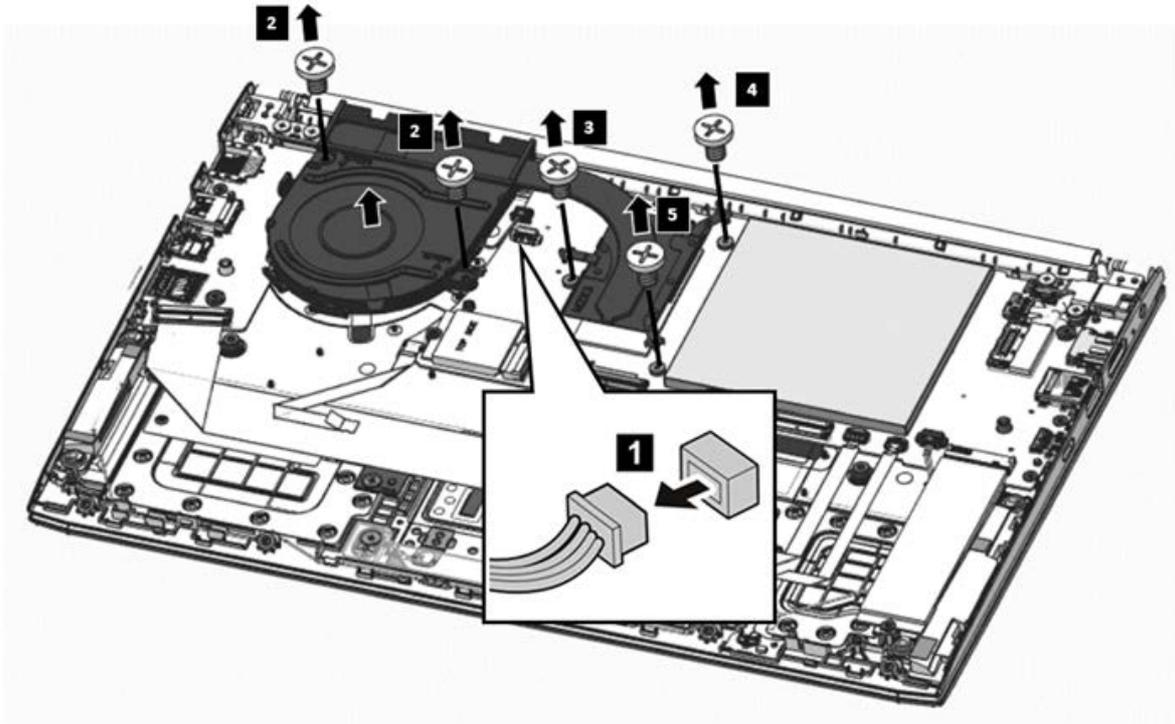
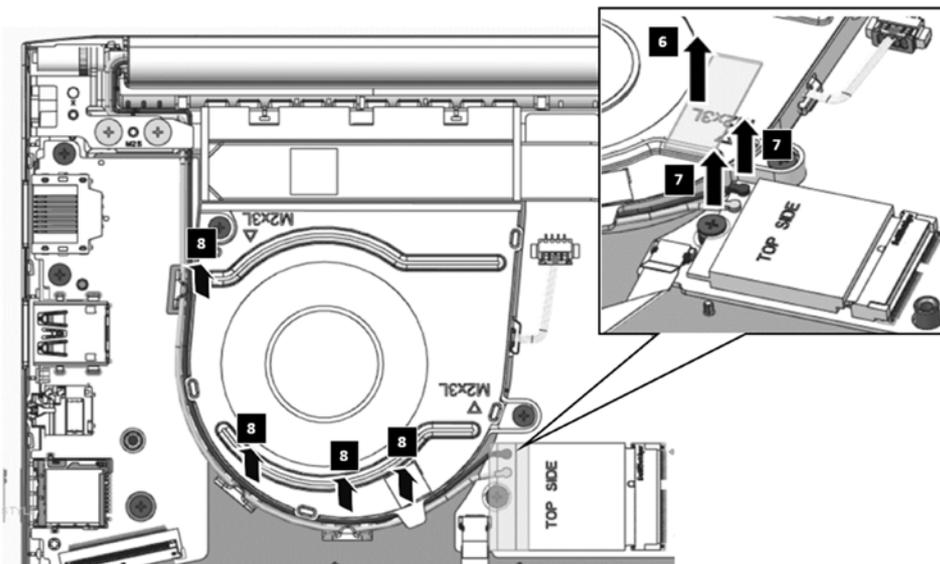

Figure 4-3 Removing the Fan and thermal module
Figure 4-4 Removing the w-lan cable
Remove the fan and thermal module according to the following procedures and Figure 4-3 & Figure 4-4
1. Peel off the W-LAN Mylar securing the cable connector in place ,6 and disconnect the two W-LAN antennas (White/Black color) from motherboard ,7 as shown in Figure 4-4.
5. Remove the three M2x3 screws according to the number sequence (5->4->3) indicated in Figure 4-3.
2. Tighten the two M2 x 3 ,2screws to secure the fan to the logic upper assembly, as show in Figure 4-3.
5. Tighten the three M2 x 3 screws according to the number sequence (3->4->5) indicated in Figure 4-3 to secure the thermal module to the motherboard.